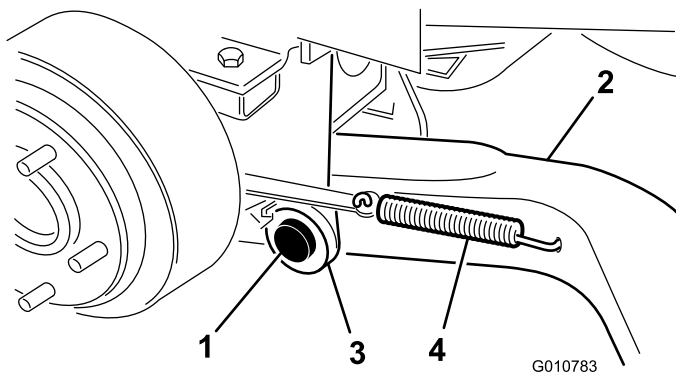

Figure 4
- Mount a lift arm (with the ball joint end positioned outward) to the pivot bracket with a pivot pin and a cotter pin (5/32 x 1-3/4 inches) (Figure 4).
6. Hook the brake return spring to the hole in the lift arm (Figure 4).